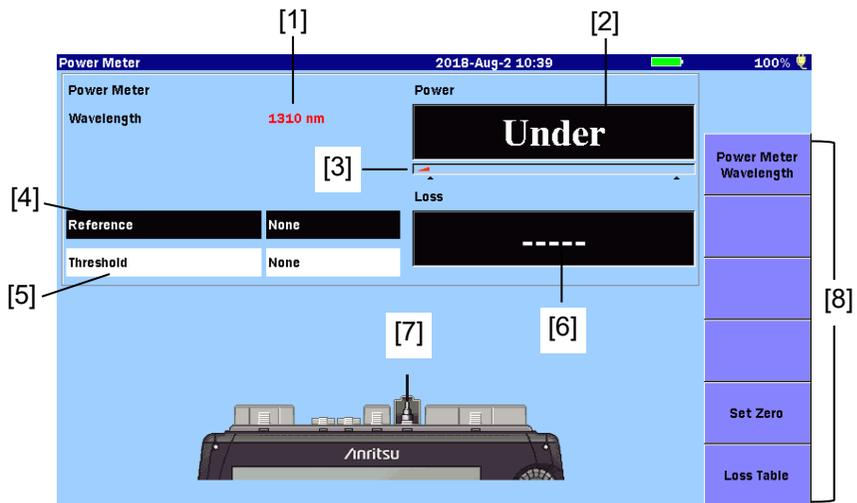

Figure 10.1.2-1 Power Meter Screen
2. Touch Set Zero on the Power Meter screen (Figure 10.1.2-1 “Power Meter Screen”). The following dialog box appears.
Displays the wavelength, reference value, and power level or loss set on the Power Meter Screen (Figure 10.1.2-1). If **Reference** is set to **None**, the power level currently measured is displayed. If any value is specified for **Reference**, power loss is displayed.
Touching this softkey goes back to the Power Meter screen (Figure 10.1.2-1 “Power Meter Screen”).